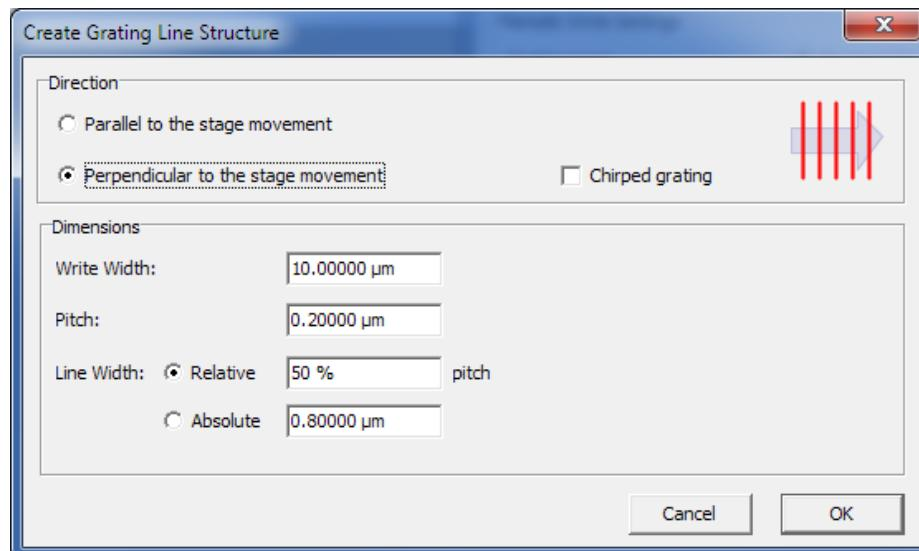

Figure 5-31: Create Grating Line Structure dialog with selection **Perpendicular to the stage movement**.
- ▶ Select **Perpendicular to the stage movement** as direction (⇒ Figure 5-31 on page 5-50).